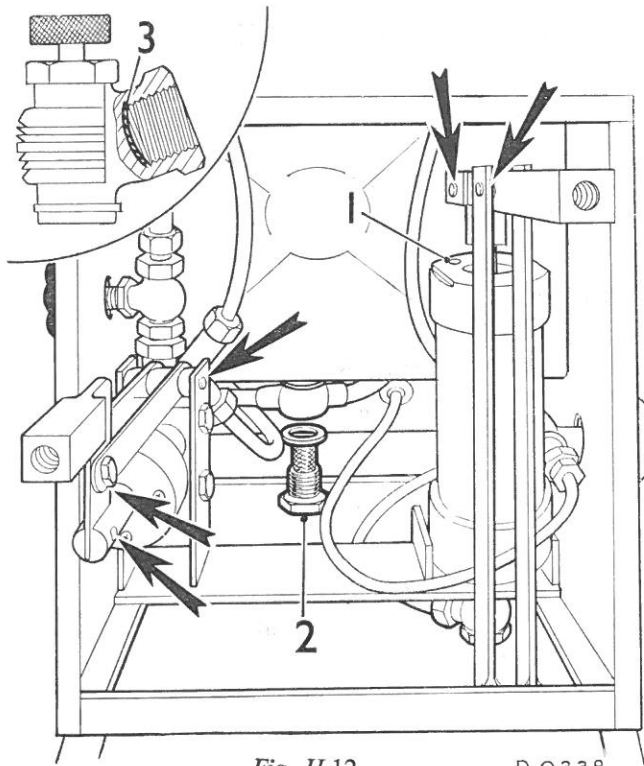

Fig. H.12
- (2) Fill the vacuum pump with recommended vacuum oil S.A.E. 10 through the filler hole in the top of the pump when the lever is at the end of its downward stroke.
- (3) Lubricate the service unit mechanism periodically (see Fig. H.12).
- (4) Place a clean container under the unit and remove the banjo union bolt (2, Fig. H.12). Clean the filter and refit the bolt (2) with the sealing washers correctly located.
- (5) Remove the black connector from the bleed valve body. Clean the filter (3) in the connector housing (Fig. H.12). When refitting use jointing compound to seal the thread.
- (6) Service tool 18G 682 should be serviced in a similar manner.